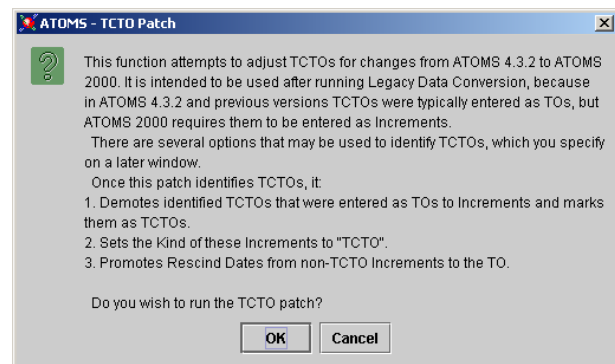

Figure 4-27. TCTO Patch Window
- 7) From the menu bar, select **Utilites, Convert Legacy Data, TCTO Patch**. The TCTO Patch window appears (Figure 4-27).